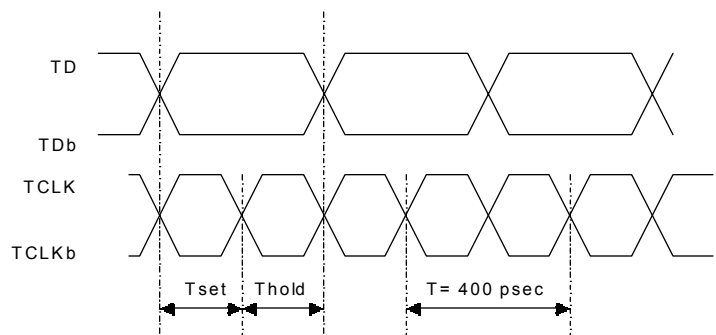
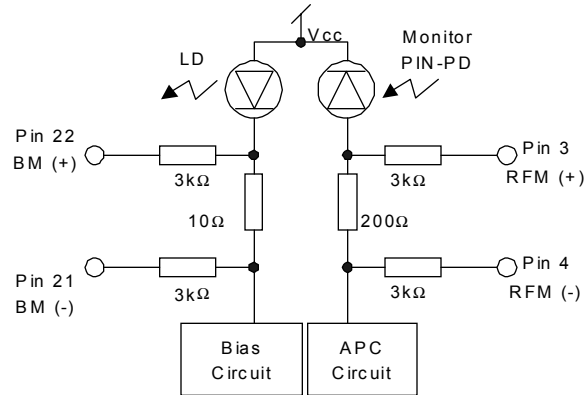

Figure 4. Input Data and Clock Timing
Figure 5. BM and RFM Interface
3. Refer to Figure 4. 4. Default (Open) normal operation. 5. Default (Open) clocked mode. 6. Alarm will be launched when LD bias current exceeds 70mA typ. 7. LD bias current can be monitored by measuring the voltage difference between BM(+) Pin 22 and BM(-) Pin 21. Please refer to Figure 5. 8. Rear Facet PD current can be monitored by measuring the voltage difference between RFM(+) Pin 3 and RFM(-) Pin 4. Please refer to Figure 5. 9. High input impedance (> 1MΩ) device is required to measure this voltage.